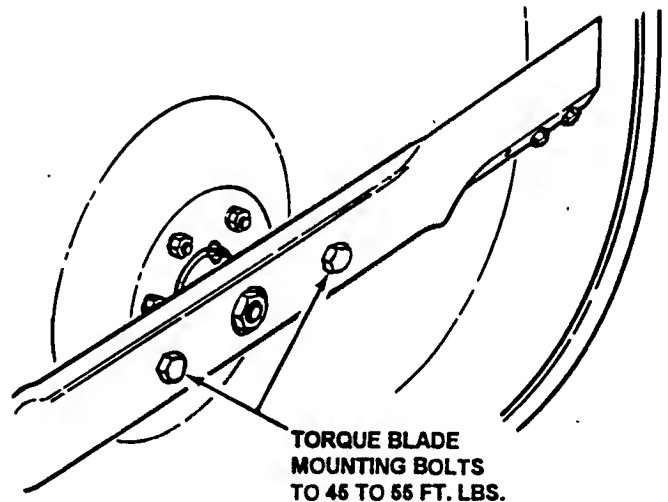

FIGURE 3.2
5. Check torque of blade mounting bolts. As necessary, torque to 45 to 55 ft. lbs. See Figure 3.2.